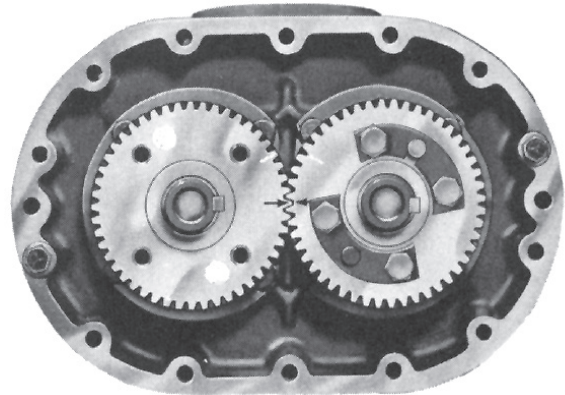
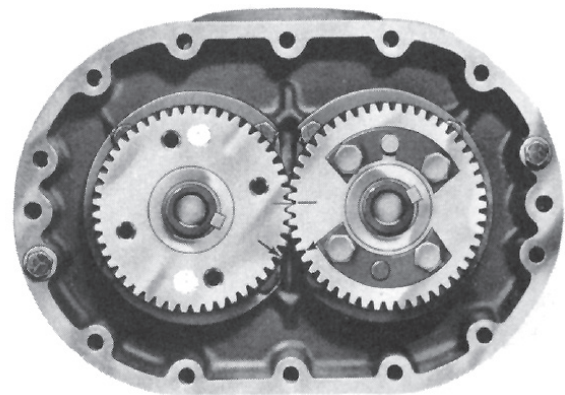

Figure 8-1 – Keyways in line and timing marks matched
Figure 8-2 – Timing marks advanced 3 teeth (reference marks aligned)
- a. Align the timing marks on the gears (**Figure 8-1**). Rotate the drive gear clockwise approximately three teeth and mark a matching reference line on each gear as shown in **Figure 8-2**. This gear position is necessary so rotors will clear and not jam. Do not allow the gears to move from the matched reference line while pulling. Use a light rocking motion to ensure that the lobes have not jammed. Remove the driven gear first and then remove the drive gear.
9. Insert gear keys in their proper location and flush with the top of the shaft. Use the two keyways facing to the right. A tight fit is required. Coat the shafts and keys with lubricant. Install the drive gear (right hand helix) on the drive rotor (left side). To install the driven gear, align the reference marks as shown in **Figure 8-2**. Install the driven gear carefully to avoid damaging any teeth when engaging opposite gear. Secure with spacers, washers, and flat-head Allen screws.
Inner race of bearing has a flange on one side only. This flange must face outward. **See Figure 8-2.**